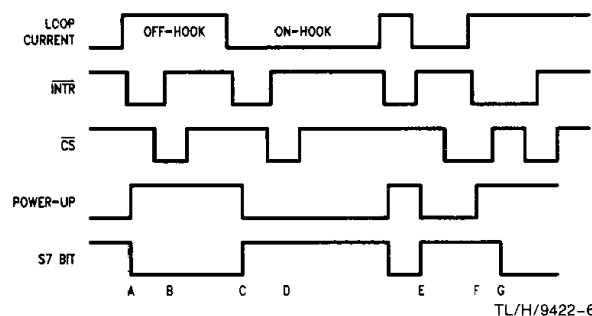

FIGURE 5. Typical Hook Switch Detect Timing
A typical example of hook switch timing is illustrated in Figure 5. While in the standby mode, all unnecessary circuitry is powered down. When Loop Supervision detects off-hook, the module is powered up,  $\overline{INTR}$  goes low and status bit S7 is cleared (A). The  $\overline{INTR}$  remains active until  $\overline{CS}$  goes low and status is read, at which time the status of the switch hook is latched, clearing  $\overline{INTR}$  (B). When the Loop Supervision detects on-hook, all unnecessary circuitry is again powered down, status bit S7 is set and  $\overline{INTR}$  is again set low (C). When the status information is read, the present switch hook status is latched, clearing the interrupt, and  $\overline{INTR}$  goes high (D). In the case of either on-hook or off-hook, if the system fails to read the status before the switch hook reverts to its previous state, the interrupt will clear itself (E). If the device's control interface is being accessed when off-hook occurs, i.e.,  $\overline{CS}$  is low,  $\overline{INTR}$  is set low immediately (F) but S7 is cleared only after  $\overline{CS}$  returns high (G). On the next Read/Write access, S7 is latched.